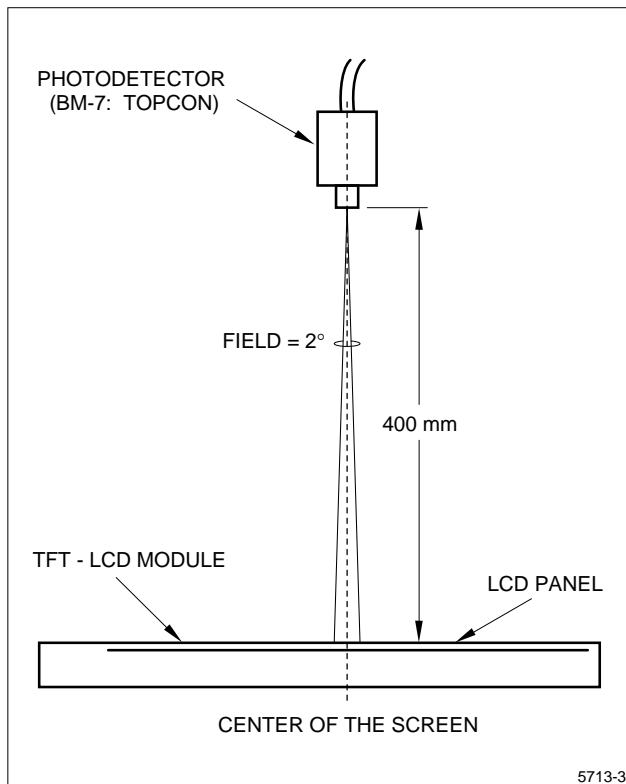

Figure 4. Optical Characteristics Measurement Method
- The measurement shall be executed 15-20 minutes after the module has been lit at the proper rating (I_L = 7.0 mA RMS). The optical characteristics shall be measured in a dark room or equivalent state with the method shown in Figure 4. These characteristics, except for White Uniformity, are measured at the center of the screen.